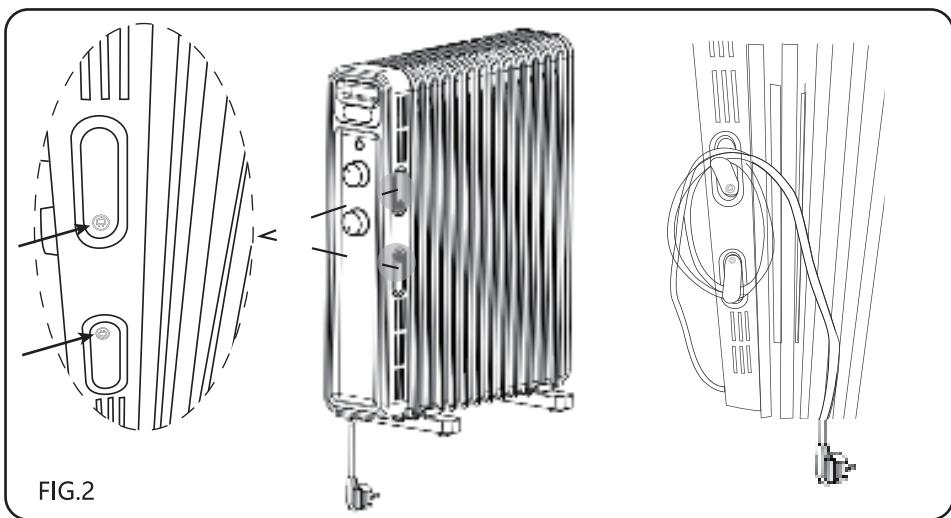

FIG.2
4. Use the cord wrap device to store the cord after use.(FIG.2)